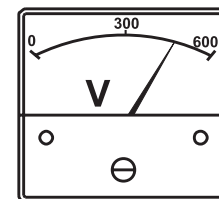

Figure 51. Voltmeter
4. The generator's AC voltmeter (Figure 51) will display the generator's output in **VOLTS**.